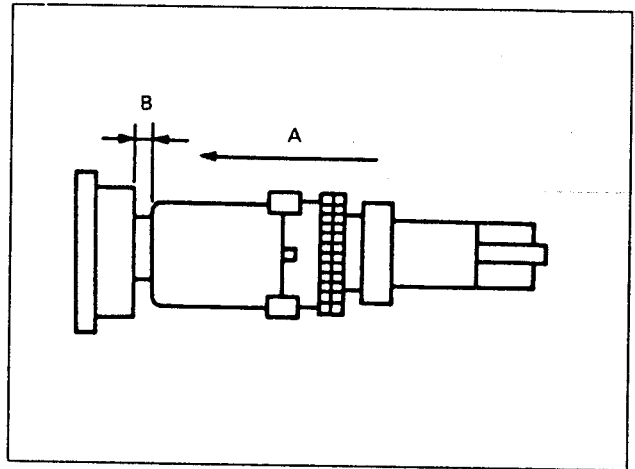

Fig. 4-2.
- 4) Shift DY in the direction of the arrow of Fig. 4-2. to eliminate gap B.